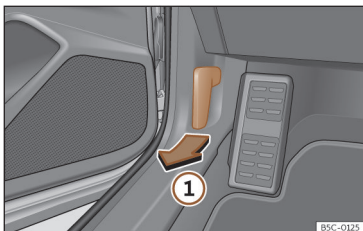

Fig. 155 Release lever in the driver's foot-well area.
- Open the door and pull the lever under the dashboard» **Fig. 155** ①.